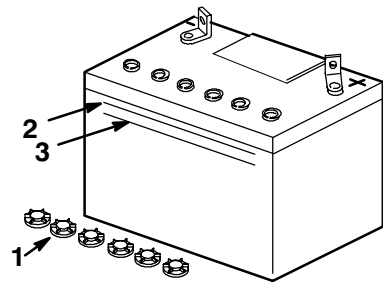

Figure 59
The electrolyte must be up to the Upper line (Fig. 59). Do not allow the electrolyte to fall below the Lower line (Fig. 59).
3. Remove the vent caps from the battery (Fig. 59).
4. Slowly pour distilled water into each battery cell until the electrolyte level is up to the Upper line (Fig. 59) on the battery case.
5. Wait five to ten minutes after filling the battery cells. Add distilled water, if necessary, until the electrolyte level is up to the Upper line (Fig. 59) on the battery case.